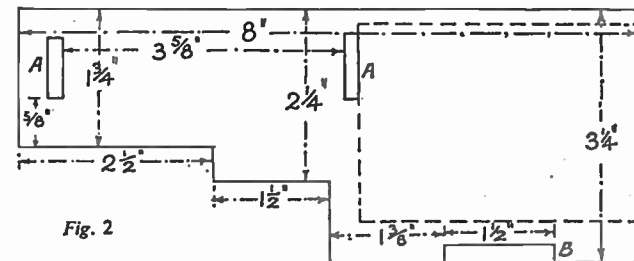

Fig. 2
At the front projection of the base, at (B) in Fig. 2, will be seen a chamfered surface 1 1/2ins. long with a square 'stopped' ends. The chamfer is cut at 45 degrees, and it will take the glued point of the shield, which may bear a crest, town or city arms, or a lettered monogram.